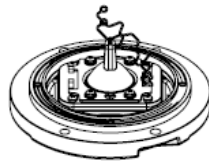

Figure 5-5
- Pull out the lamp plug and separate the upper cover and inner over of the lighting fixtures (Figure 5-5).
- Loosen the lamp foot jump spring from the hook (see Figure 5-5).